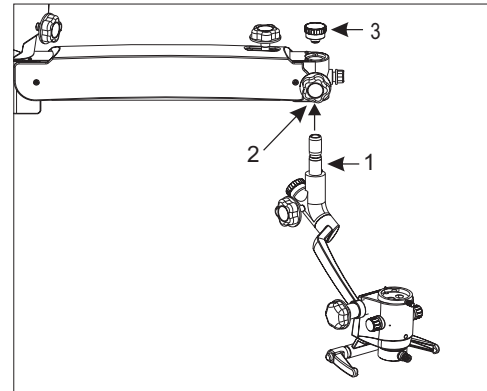

Fig. 5
- 7.4 Retrieve the inclined coupling assembly from the packing. Install the coupling to the suspension arm by sliding the guiding shaft (1) to the suspension arm. Make sure to loosen the locking screw (2) before sliding in the guiding shaft. Lock the inclined coupling with the threaded plug (3). See figure 5. Install all the locking knobs to the suspension arm, inclined coupling and magnichanger locking knob.